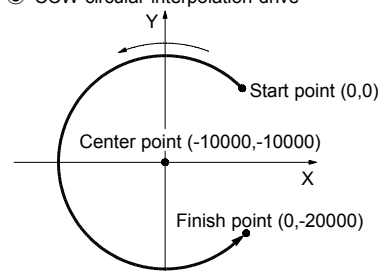

Fig.2 Example of CCW circular interpolation
【Setting procedure for the operation of Fig.2】
- ① ~ ③ Same as Fig.2
- ④ Center point XC= 5000
- ⑤ Center point YC= 0
- ⑥ Finish point XP= 0
- ⑦ Finish point YP= 0
- ⑧ CW circular interpolation drive